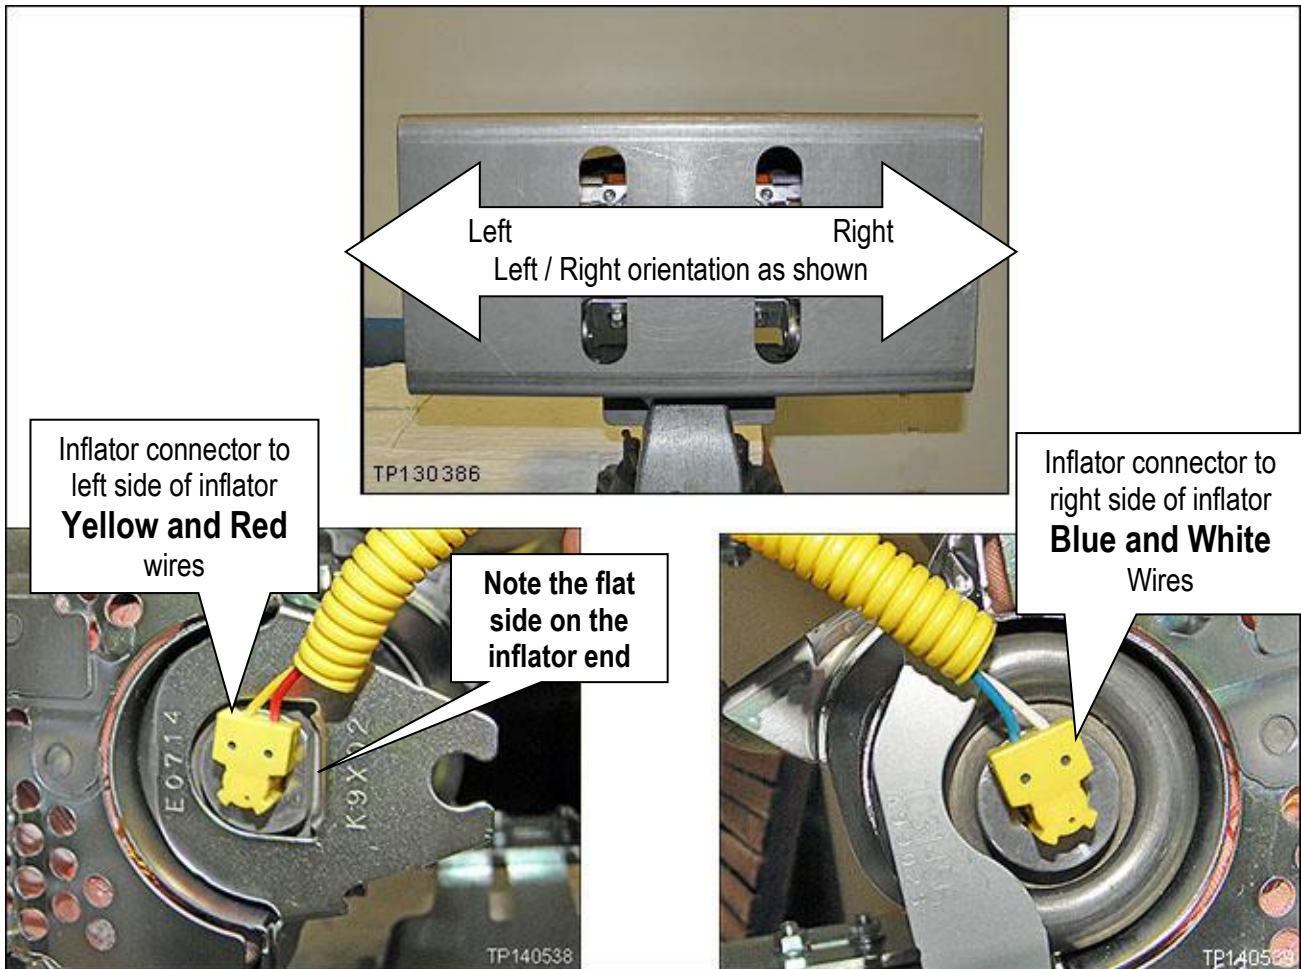

Figure Y17
- **Make sure to attach the connectors to the correct ends of the inflator (see Figure Y17).**
- Refer to Figures Y17, Y18, and Y19.